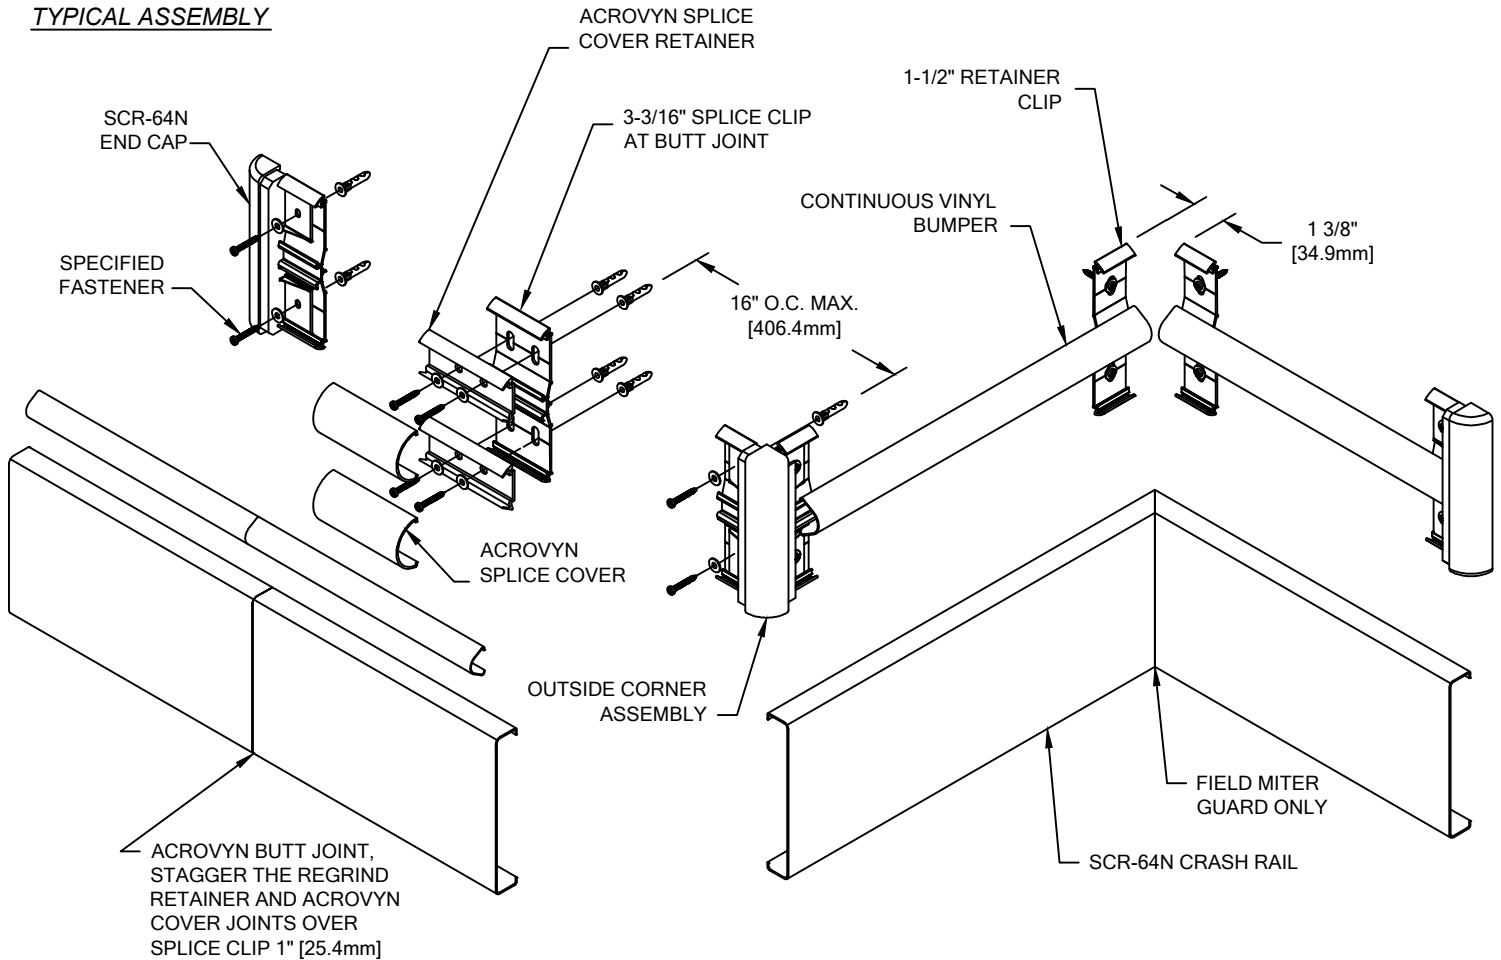

FIGURE 1.
5. FASTEN CLIPS TO WALL USING C/S SUPPLIED FASTENERS FOLLOWING MANUFACTURER'S GUIDELINES. 1-1/2" [38.1mm] CLIPS ARE TO BE INSTALLED AT 16" [406.4mm] O.C. AND 3-3/16" [81.0mm] CLIPS ARE TO BE INSTALLED AT BUTT JOINTS WITH THE ACROVYN SPLICE COVER RETAINER ATTACHED TO THE FACE. USE A LEVEL TO INSURE THAT THE CLIPS AND SPLICES ARE INSTALLED PLUMB. (SEE FIGURE 1)